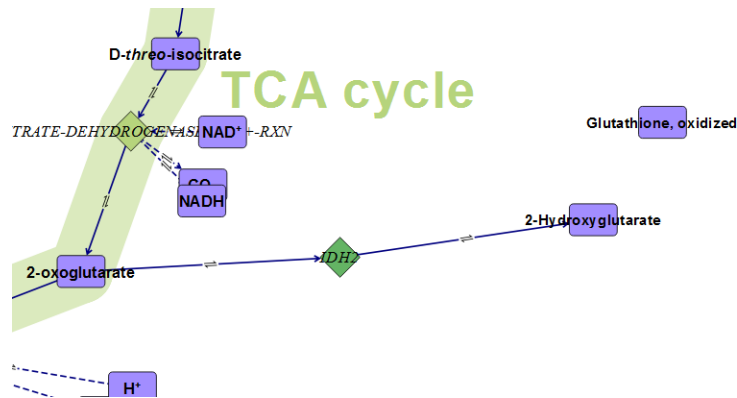

Figure 78 Drawing Area showing the repositioned glutathion, oxidized metabolite
- Drag the glutathione, oxidized metabolite to a position near the 2-hydroxyglutarate metabolite. Flux edges are not necessary to connect this metabolite to the network diagram (Figure 78).